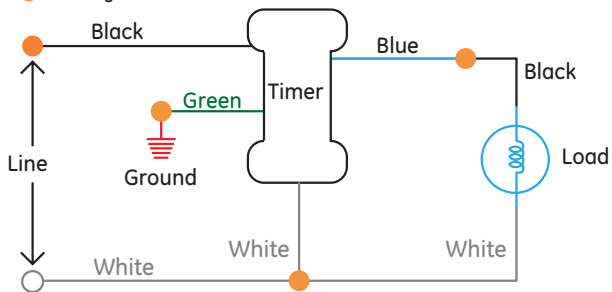

Figure 1
3. Connect the wires of the timer to the wall box as shown in **Figure 1** and **Figure 2** using the wire nuts provided.